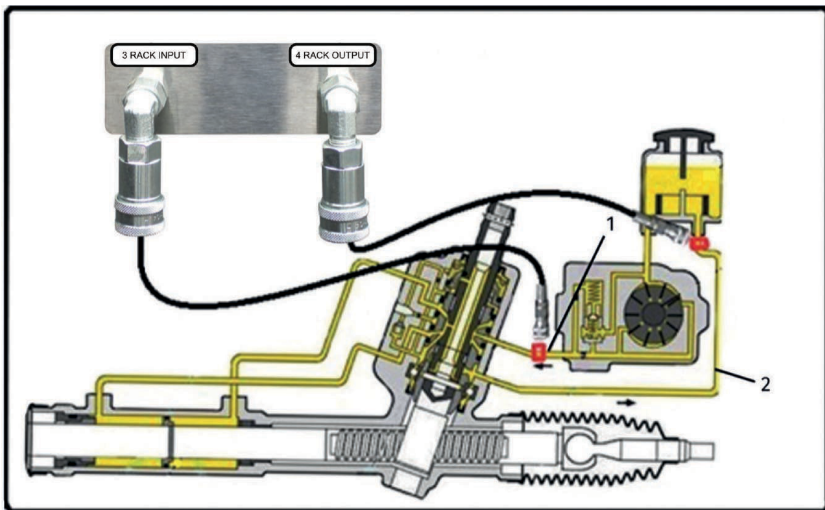

Figure 5. Connection to the power steering during system flushing:
1. Connect the bench to the hydraulic system of the vehicle as shown in Figure 5: